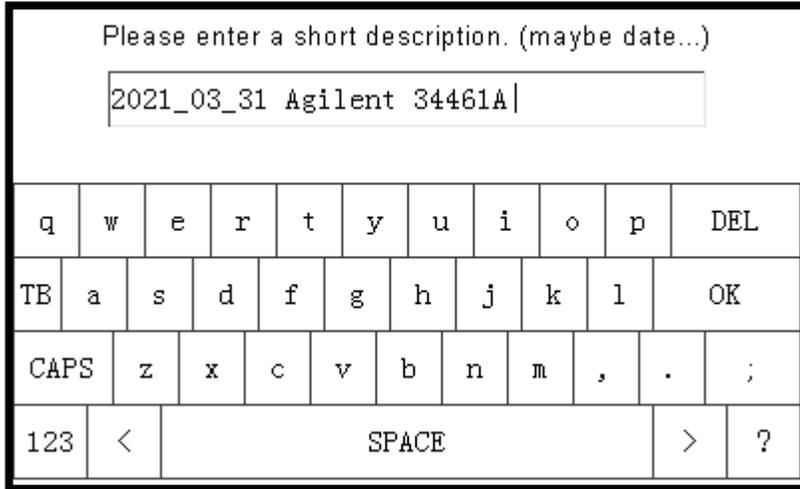

Figure 30. MAXREFDES183# Calibrate data naming.
41. The next step in the calibration process is to enter a description or name for the new calibration data. After clicking **OK**, a keyboard will show up (**Figure 30**) and allow the user to enter free-form text, that will be saved in the FLASH together with the calibration data.